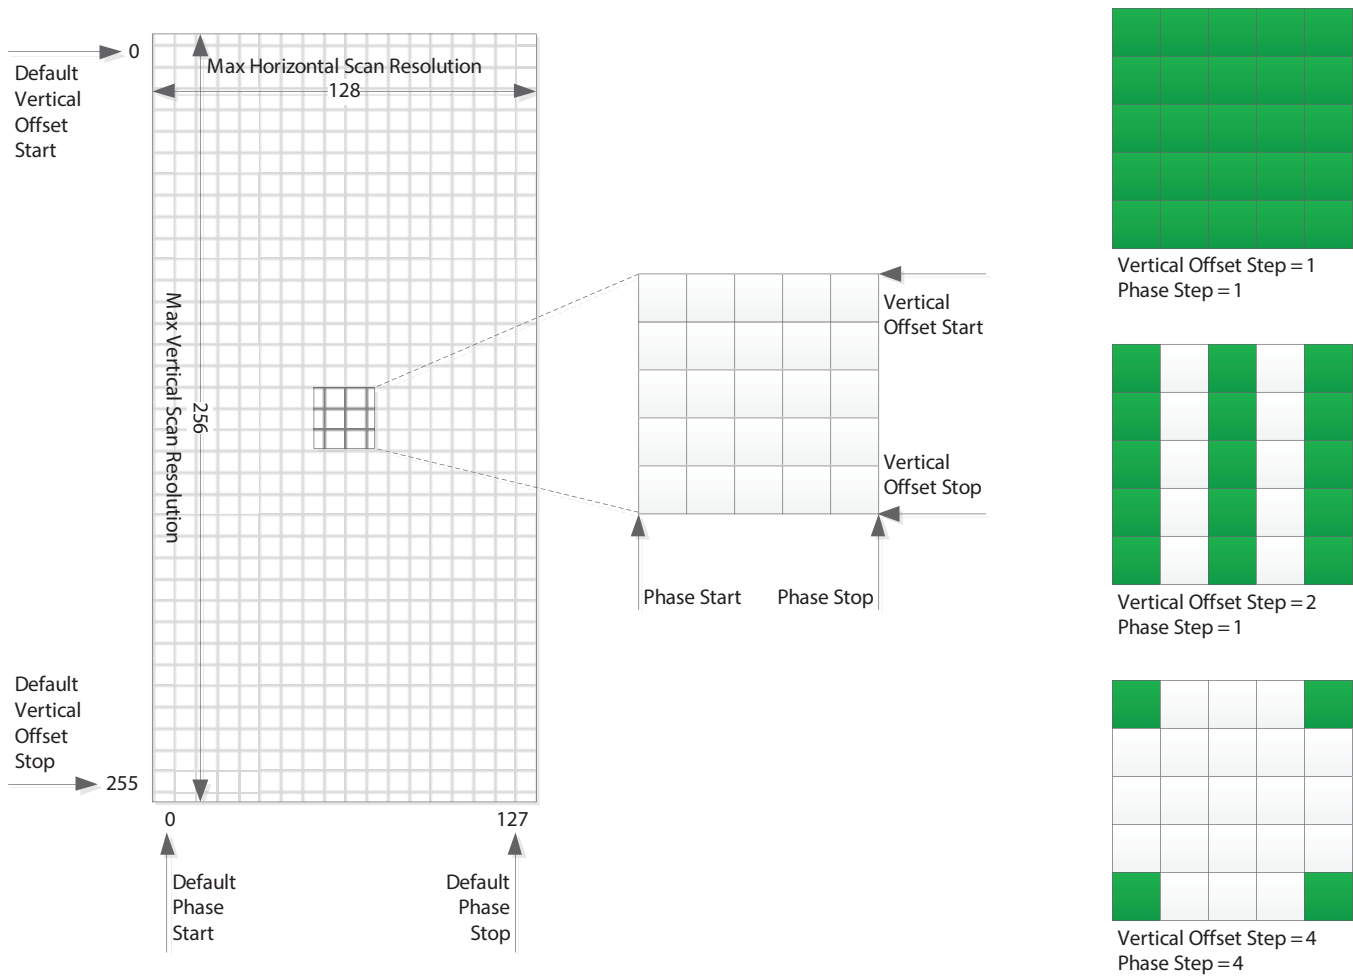

Figure 4-6: Eye Scan Matrix Parameters
Figure 4-6 shows a visual representation of the scan matrix and indicates the spatial parameters that determine the scan area and resolution. Running a scan using the default offset and step parameters, results in 32768 (128x256) samples. The number of samples and thus, the total scan time can be reduced to meet the needs of the application. The scan area can be reduced by reducing the span determined by the vertical and phase start and stop offsets, or the resolution can be reduced by increasing the step size between adjacent samples. On the right in Figure 4-6, there are three step settings used as examples, however there are a total of nine combinations possible. See Table 4-5 for the register addresses and parameter names of the spatial eye scan parameters.
- ◆ Making reference to the Matrix shown in Figure 4-6, the eye scan data starting at 0x6CC3 is stored in order from left to right, top to bottom, from the last stored vertical/horizontal position in the matrix.